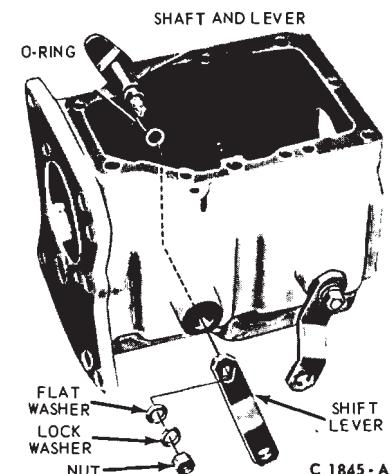

FIG. 15—Shift Lever and Shaft Disassembled
1. Remove the nut, lock washer, and flat washer that secure each shift lever (Fig. 15) to the lever and shaft in the transmission case. Lift the levers off the shaft. Slide each lever and shaft out of the case. Discard the O-ring from each shaft.